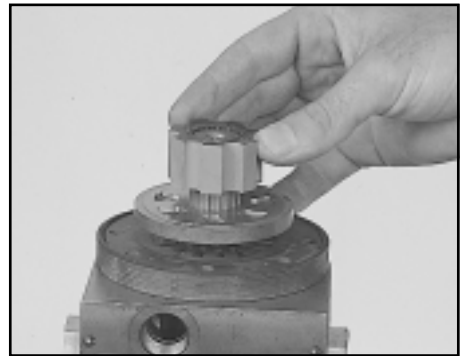

Figure A17
20. Place the inner over the splines of the shaft. Position the inner so the semi-circular roll pockets are between the rotary valve port windows. SEE FIGURE A17.